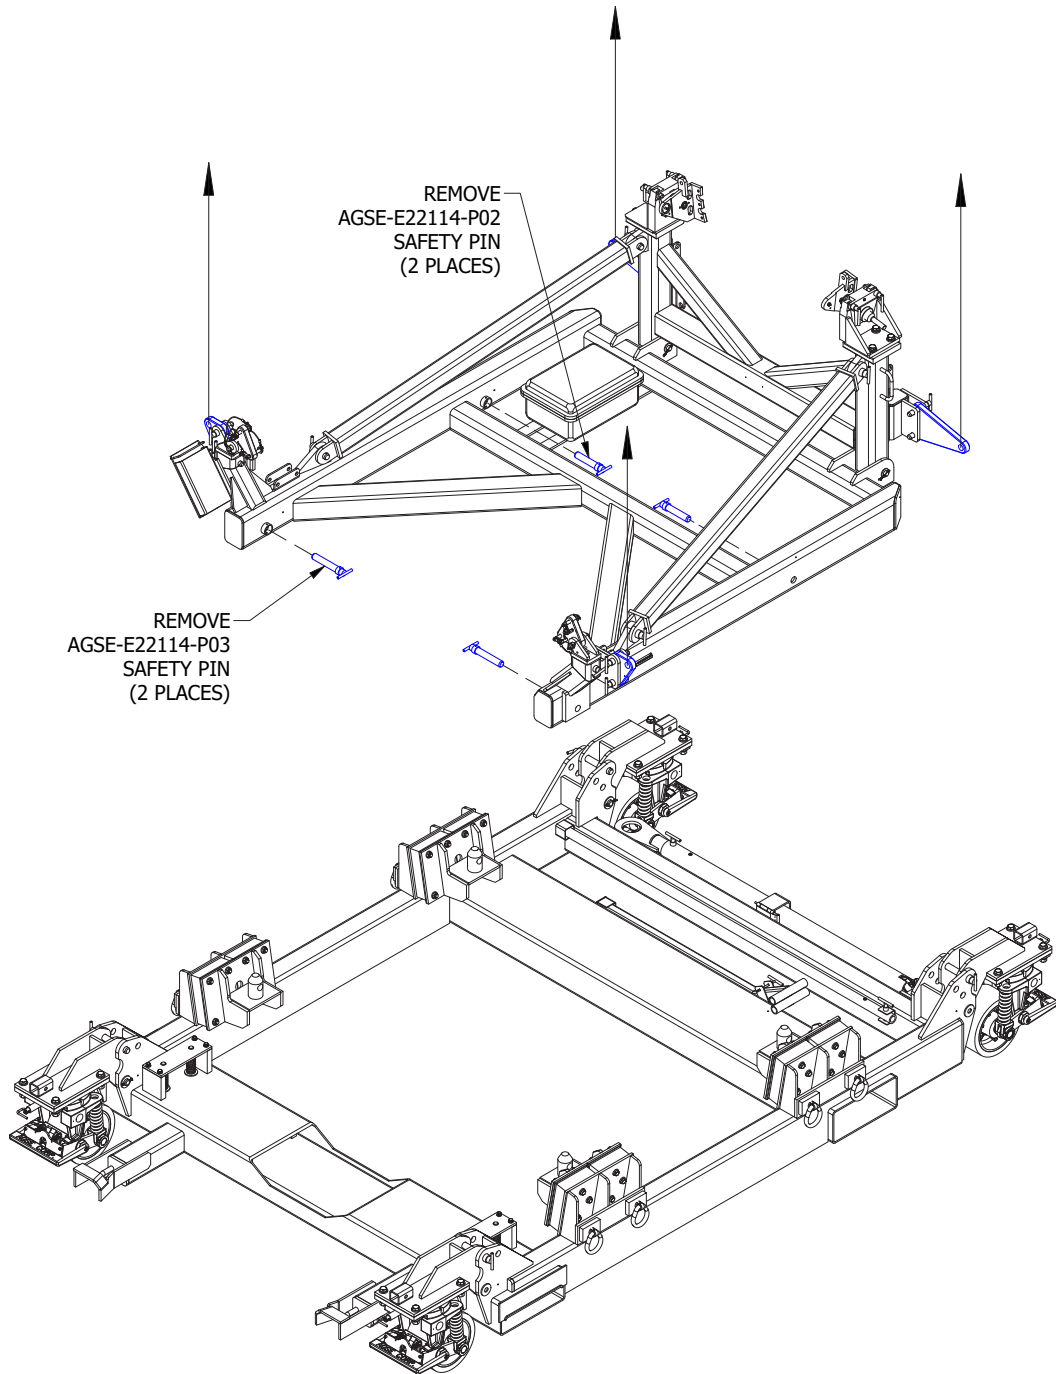

Figure 4.6-2
- 7). Attach slings to bootstrap adapters (Figure 4.6-2).
- 8). Remove the two (2) AGSE-E22114-P03 safety pins at the FWD end of the cradle.
- 9). Remove the two (2) AGSE-E22114-P02 safety pins at the AFT end of the cradle.
- 10). Lift the cradle upward and store two (2) AGSE-E22114-P03 and two (2) AGSE-E22114-P02 safety pins on the cradle.